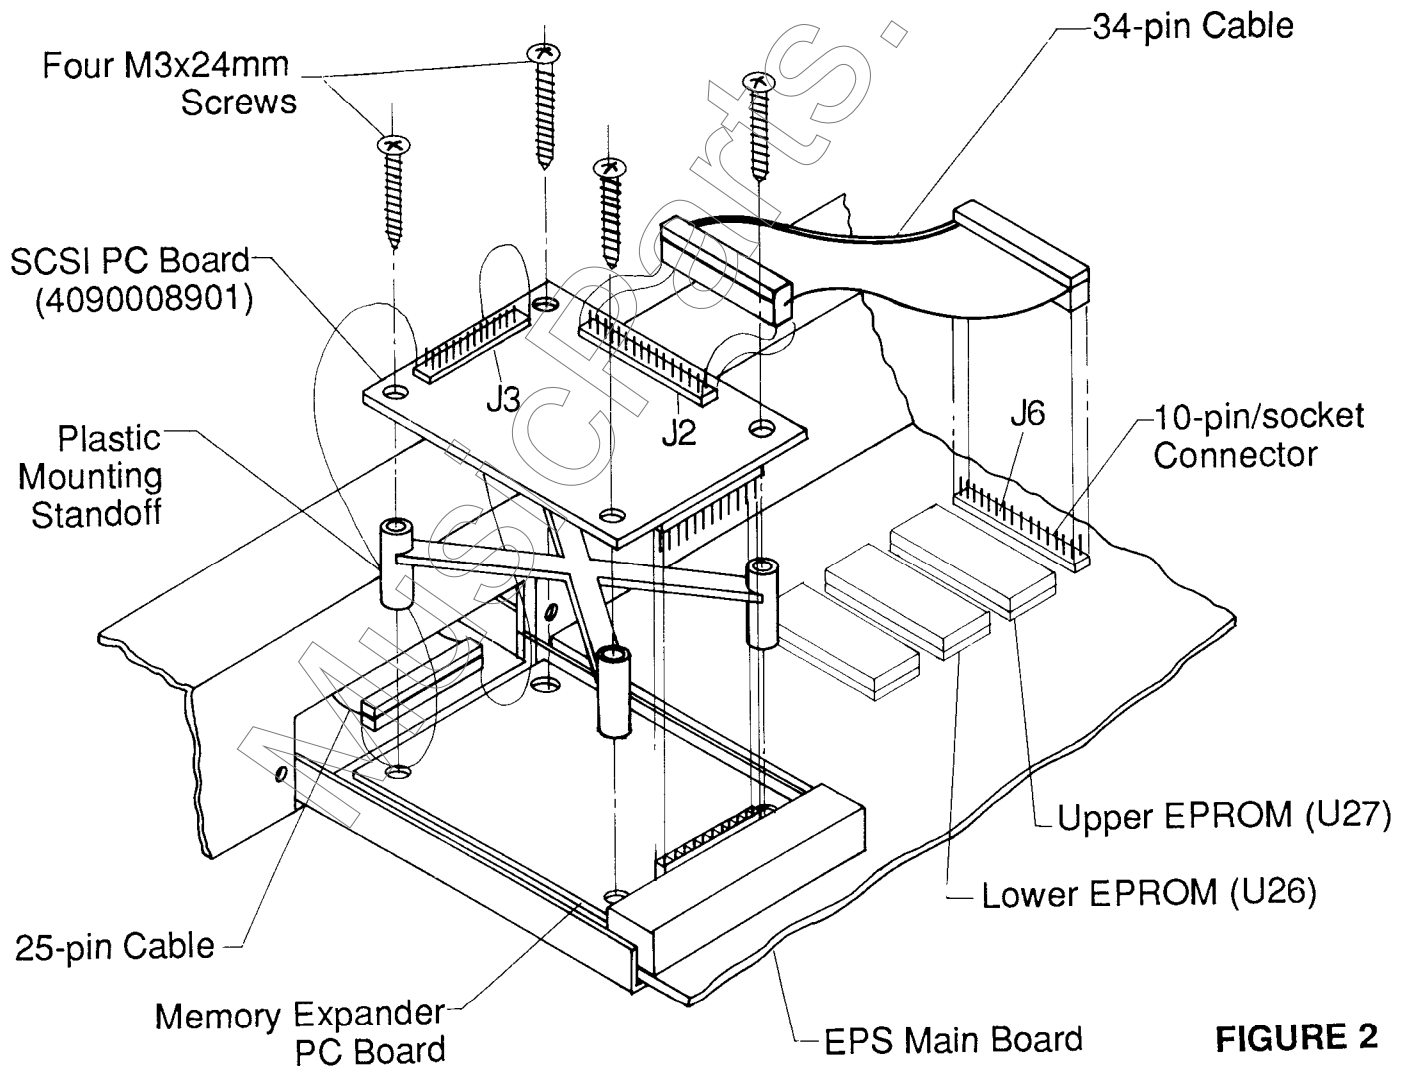

FIGURE 2
D. ATTACHING THE SCSI PC BOARD (SEE FIGURE 2)